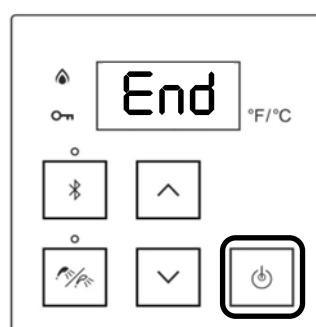

Figure 79
17. Push the power button, and the display shows “End” (Figure 79).